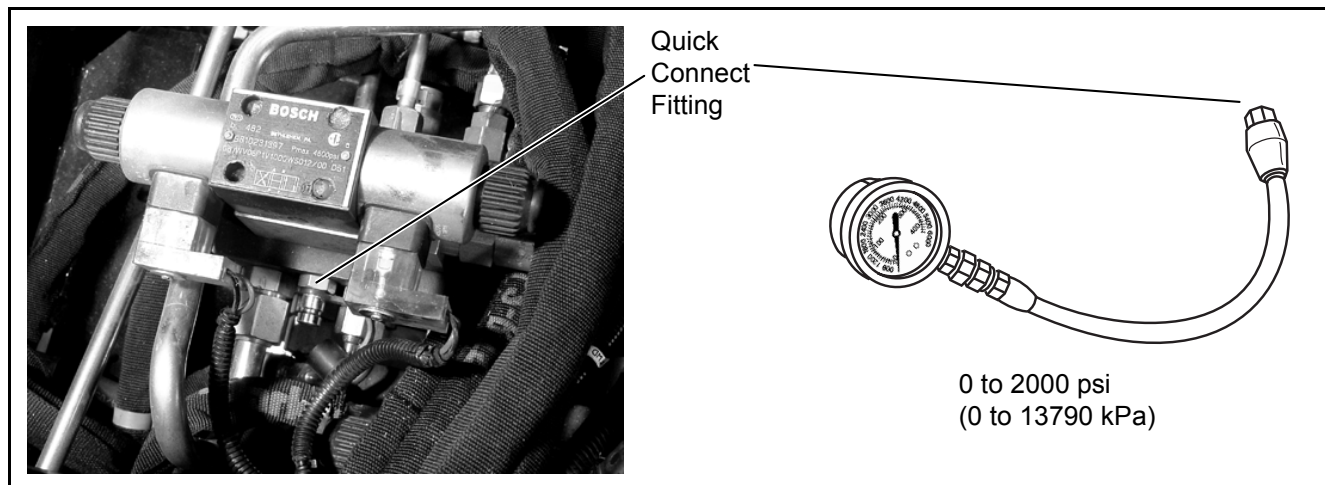

Figure 8O-5. Lower Circuit Testing
12. Remove the gauge and cover the quick connect port with the rubber cover (Figure 8O-5).
2. Install a 3000 psi (2067 bar) pressure gauge with a quick connect fitting to the quick connect fitting on the reel motor control valve (Figure 8O-6).